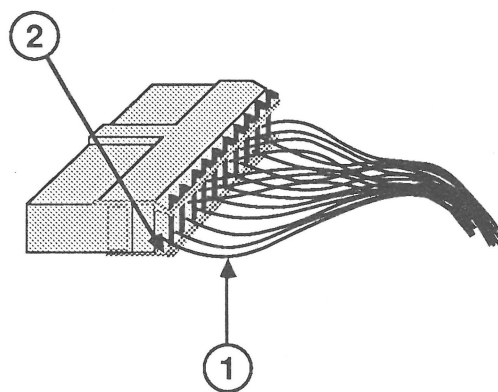
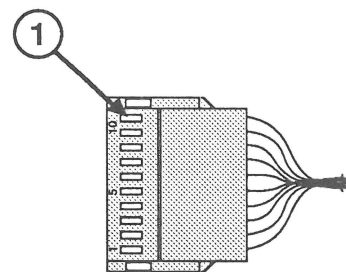

FIGURE 3
FIGURE 4
2. Orient the interface cable connector as shown in Figure 3. Locate the last wire (Figure 3, #1) on the left side in the lower row (it has an empty pin above it). This wire must be removed from the connector block to enable this particular eject function.
3. Look at the bottom of the connector block and locate the spring clip under this wire (Figure 4, #1). Using a pin pusher or tool with a sharp point, push in on the spring clip and pull gently on the wire to remove it from the connector block. You may have to pry up one edge of the block (Figure 3, #2) to completely free the connector.